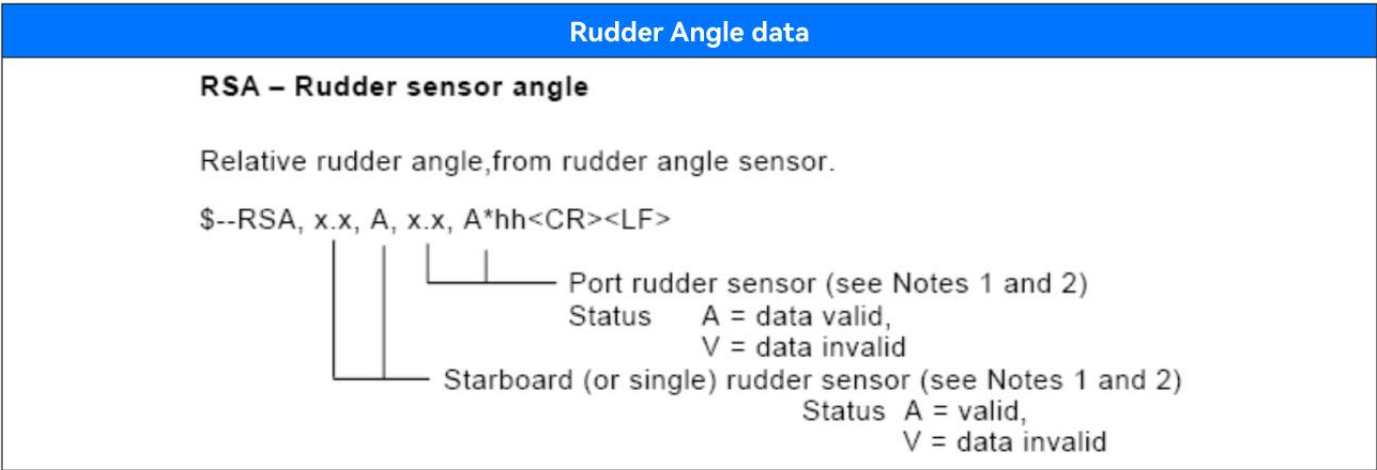

Figure 4.1
4. The product can output the rudder Angle data in standard 0183 format, as shown in Figure 4.1.